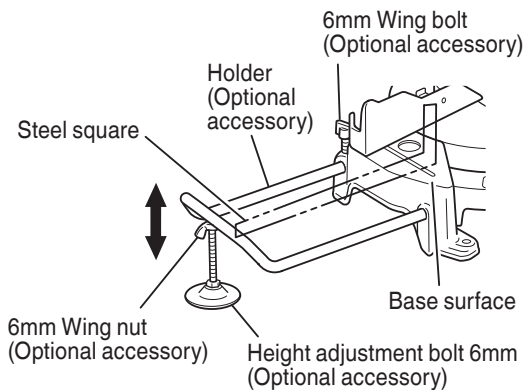

Fig. 10
- (1) As indicated in Fig. 10, use a steel square for aligning the upper edge of the holders with the base surface. Loosen the 6mm wing nut. Turn a height adjustment bolt 6mm, and adjust the height of the holder.
- (2) After adjustment, firmly tighten the wing nut and fasten the holder with the 6mm wing bolt (optional accessory). If the length of Height Adjustment Bolt 6mm is insufficient, spread a thin plate beneath. Make sure the end of Height Adjustment Bolt 6mm does not protrude from the holder.